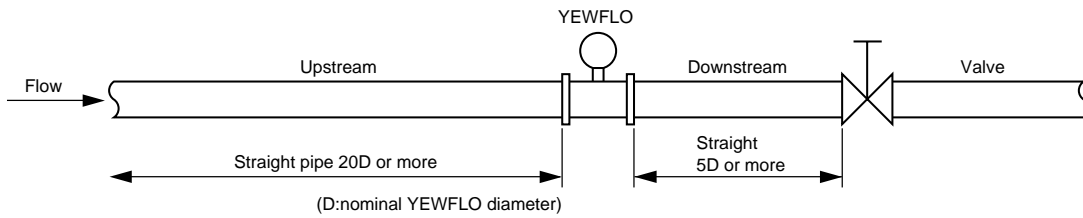

Figure 9.1.1
- (1) In general, install the YEFWLO on the upstream side of valve. (Refer to Figure 9.1.1)
- (2) In case of installing a valve on the upstream side of YEFWLO.